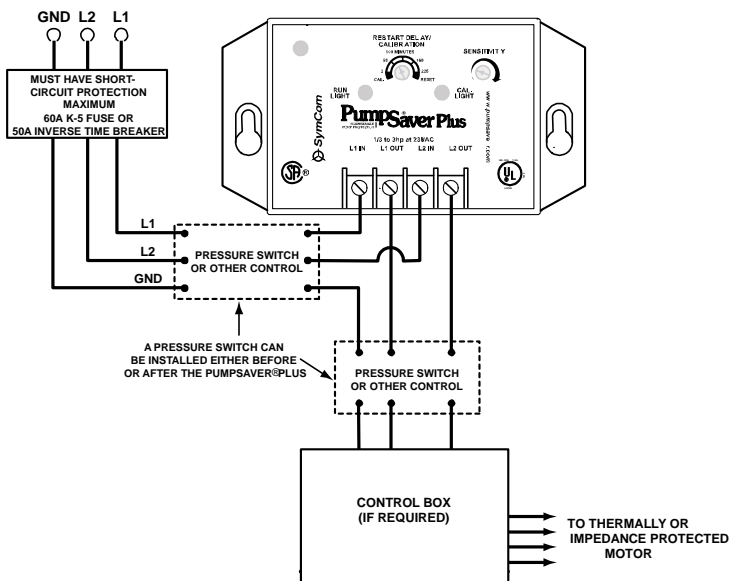

FIGURE 1: Typical Wiring Diagram
3. Connect the other line from the fused disconnect to the PumpSaver® Plus's **L2 IN** terminal. Run a wire from the **L2 OUT** terminal to the other in-line controls such as pressure or float switches (see Figure 1).
- Typical wiring diagram – Figure 1